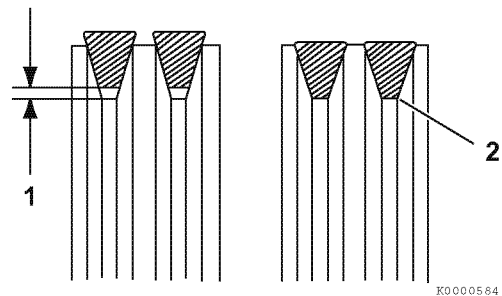

Figure 8-15
5. Inspect the condition of the V-belt. There must be clearance (1, **Figure 8-15**) between the V-belt and the bottom of the pulley groove. If there is no clearance (2, **Figure 8-15**) between the V-belt and the bottom of the pulley groove, replace the V-belt.